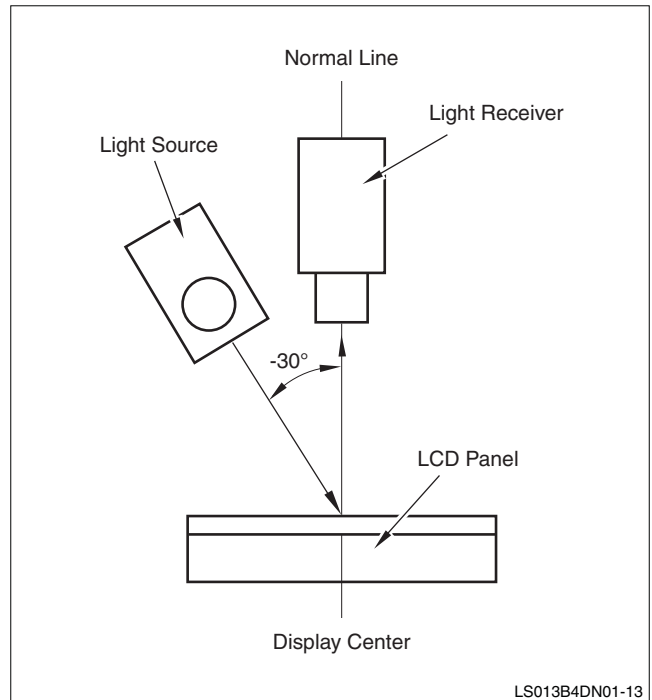
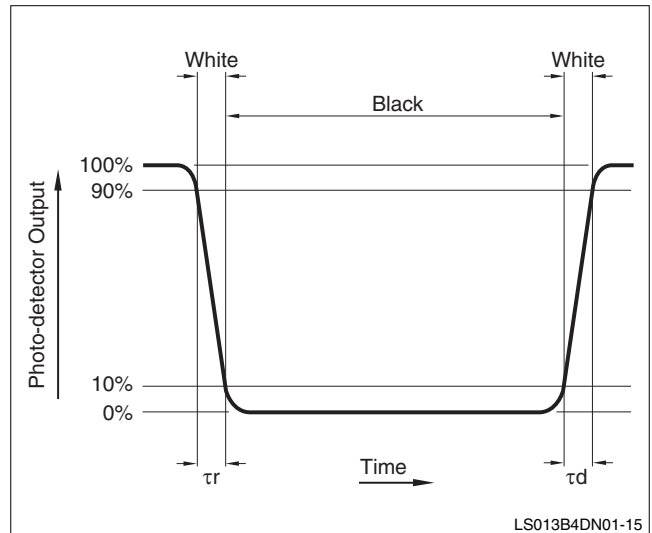

Figure 6. Setup for Response Time
Figure 7. Response Time
3. Response Time is measured by the change interval in an optical receiver when the test panel's signal is transitioned from white to black to white. See Figure 6 for the measurement setup and Figure 7 for the output waveshape.